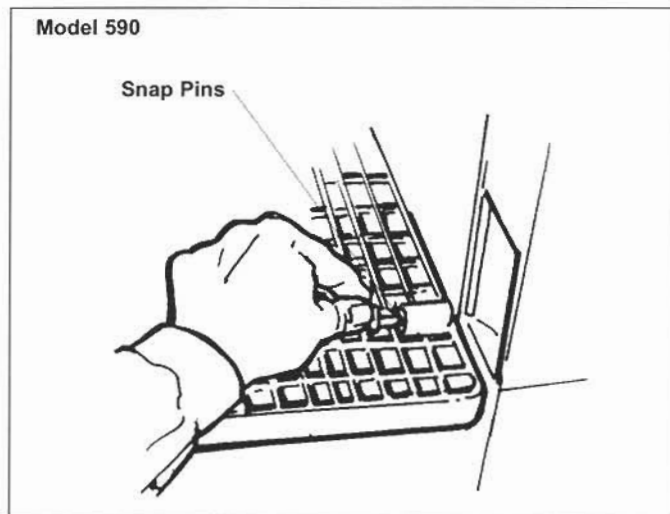

Figure 2-46. Lower Evaporator Cover
4. Remove the lower evaporator cover by pulling out the two snap pins (Figure 2-46).